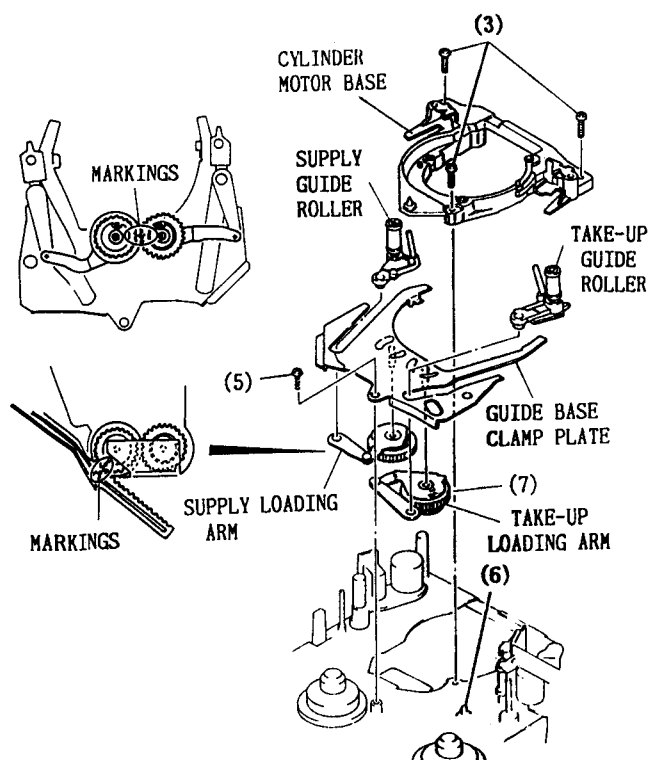

Fig. 7-12 Cylinder Motor Base and Supply/Take-up Loading Arms
12. Cylinder Motor Base and Supply/Take-up Loading Arms (Fig. 7-12)
Supply/Take-up Loading Arms (Fig. 7-12)